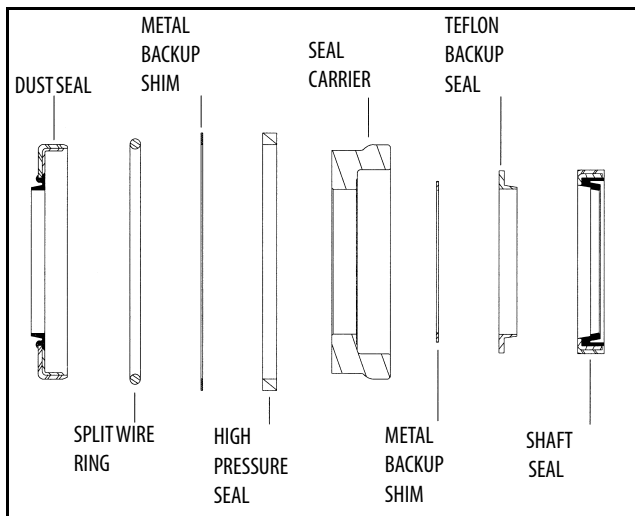

Figure 3-18. Seal Orientation
3. Install the shaft seal down onto the shaft making sure the lip on the seal faces down. Refer to Figure 3-18., Seal Orientation.